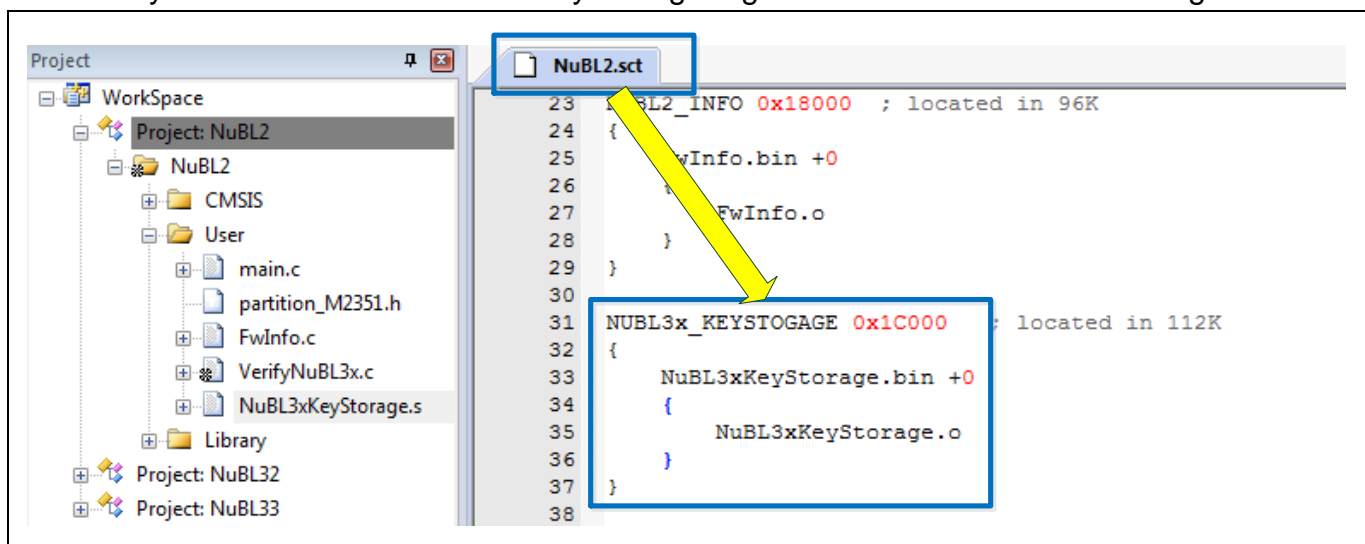

Figure 5-22 Allocate NuBL32/NuBL33 Key Storage Region
2. Modify NuBL2.sct to allocate the key storage region at 0x1C000 as shown in Figure 5-22.